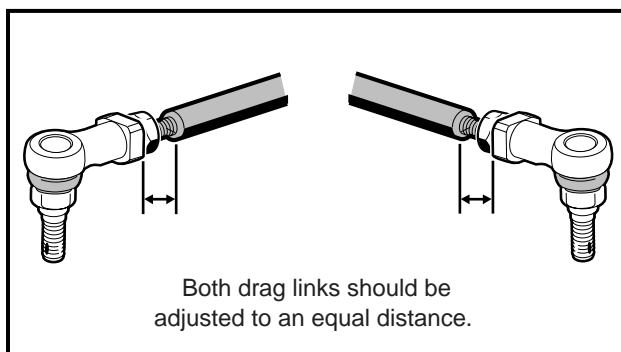

Figure 7-27 Adjust Toe-in
- 6.3. Rotate both of the ball joints an equal amount. To increase the toe-in, rotate both of the ball joints counterclockwise. To decrease the toe-in, rotate both of the ball joints clockwise. Maintain an equal distance from the ball joint to the end of the threads on each drag link (**Figure 7-27, Page 7-14**).